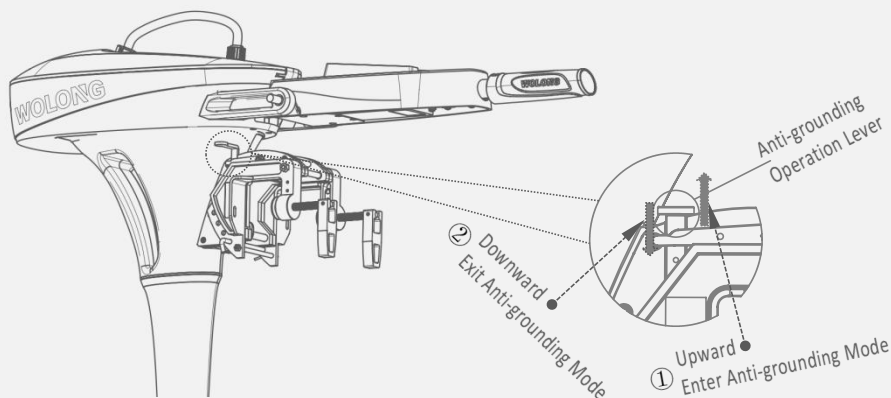

Figure 8-1
As shown in Figure 8-1 ① above, lift the anti-grounding operation lever up to the maximum position to complete the setting.
As shown in Figure 8-1 ② above, press the trim operation lever down and confirm it lock the trim pin, the anti-grounding protection will be disabled and the outboard will work in normal state.